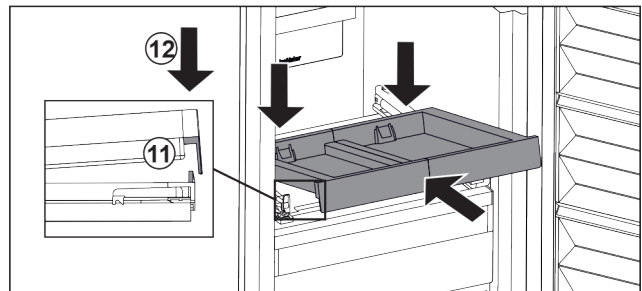

Fig. 99
- ▶ Slide it in at an angle. Make sure that the stop is behind the lug on both sides. Fig. 99 (11)
- ▶ Lower the pull-out board at the front. Fig. 99 (12)